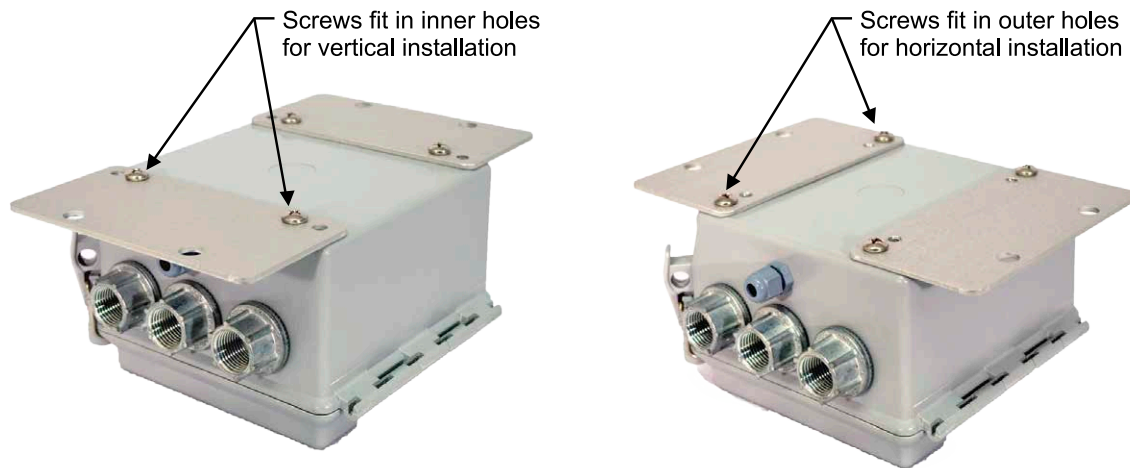
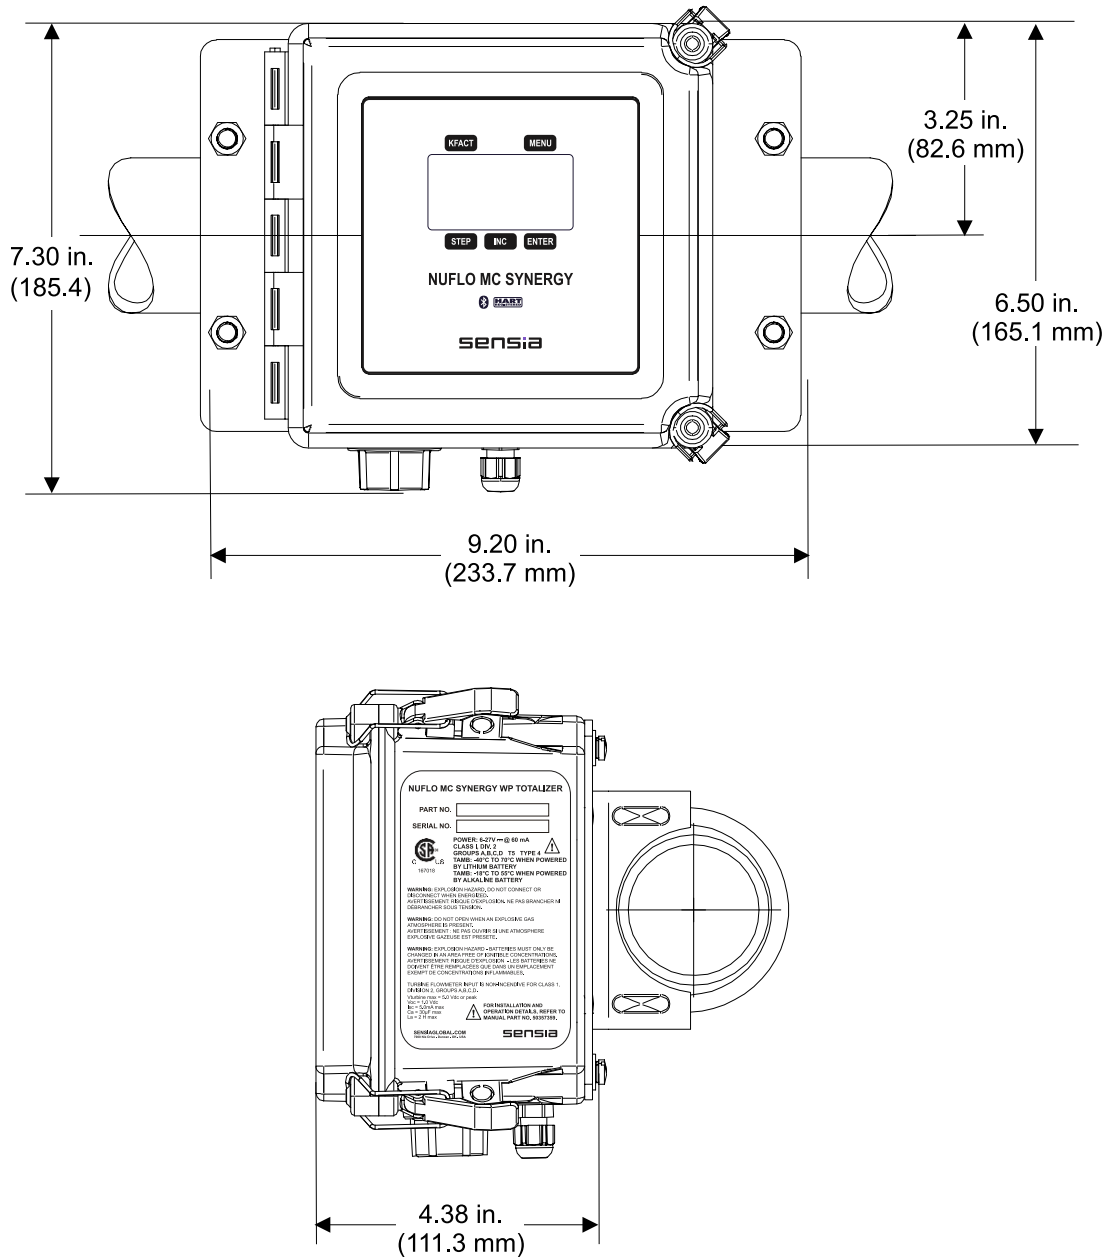

Figure 2.4—Conversion of brackets for mounting instrument to horizontal pipe
Figure 2.5—Typical mount dimensions in inches (millimeters) for remote-mount installation on horizontal pipe
The remote-mount MC Synergy WP Totalizer is assembled at the factory for mounting on a vertical pipe. To install the MC Synergy WP on a horizontal pipe, remove and reattach the brackets in a different position as shown in Figure 2.4. Dimensions are provided in Figure 2.5, page 38.
3. Insert the screws that were removed in step 1 in the outer holes of the bracket and tighten with a screwdriver (Figure 2.4).